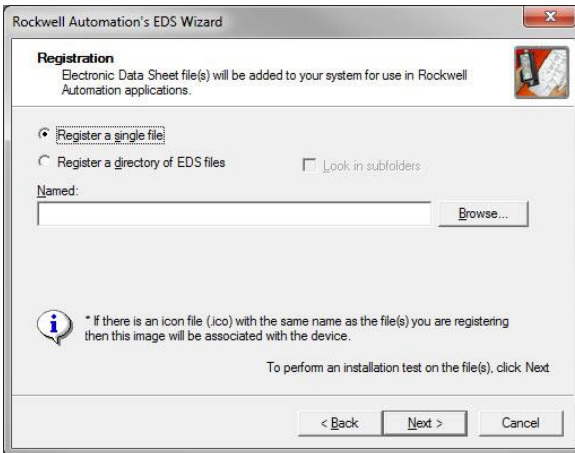

Figure 28: EDS Registration
- 4) The "Registration" dialog will appear. Refer to Figure 28.